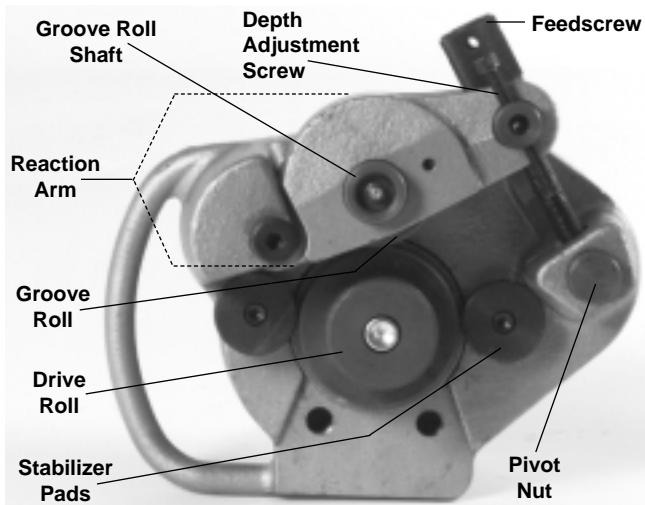

Figure 2 – "Open" Groove Roll from Drive Roll.
1. At a bench or on the ground, rotate the feed screw counter clockwise to "open" the groove roll from the drive roll (*Figure 2*).